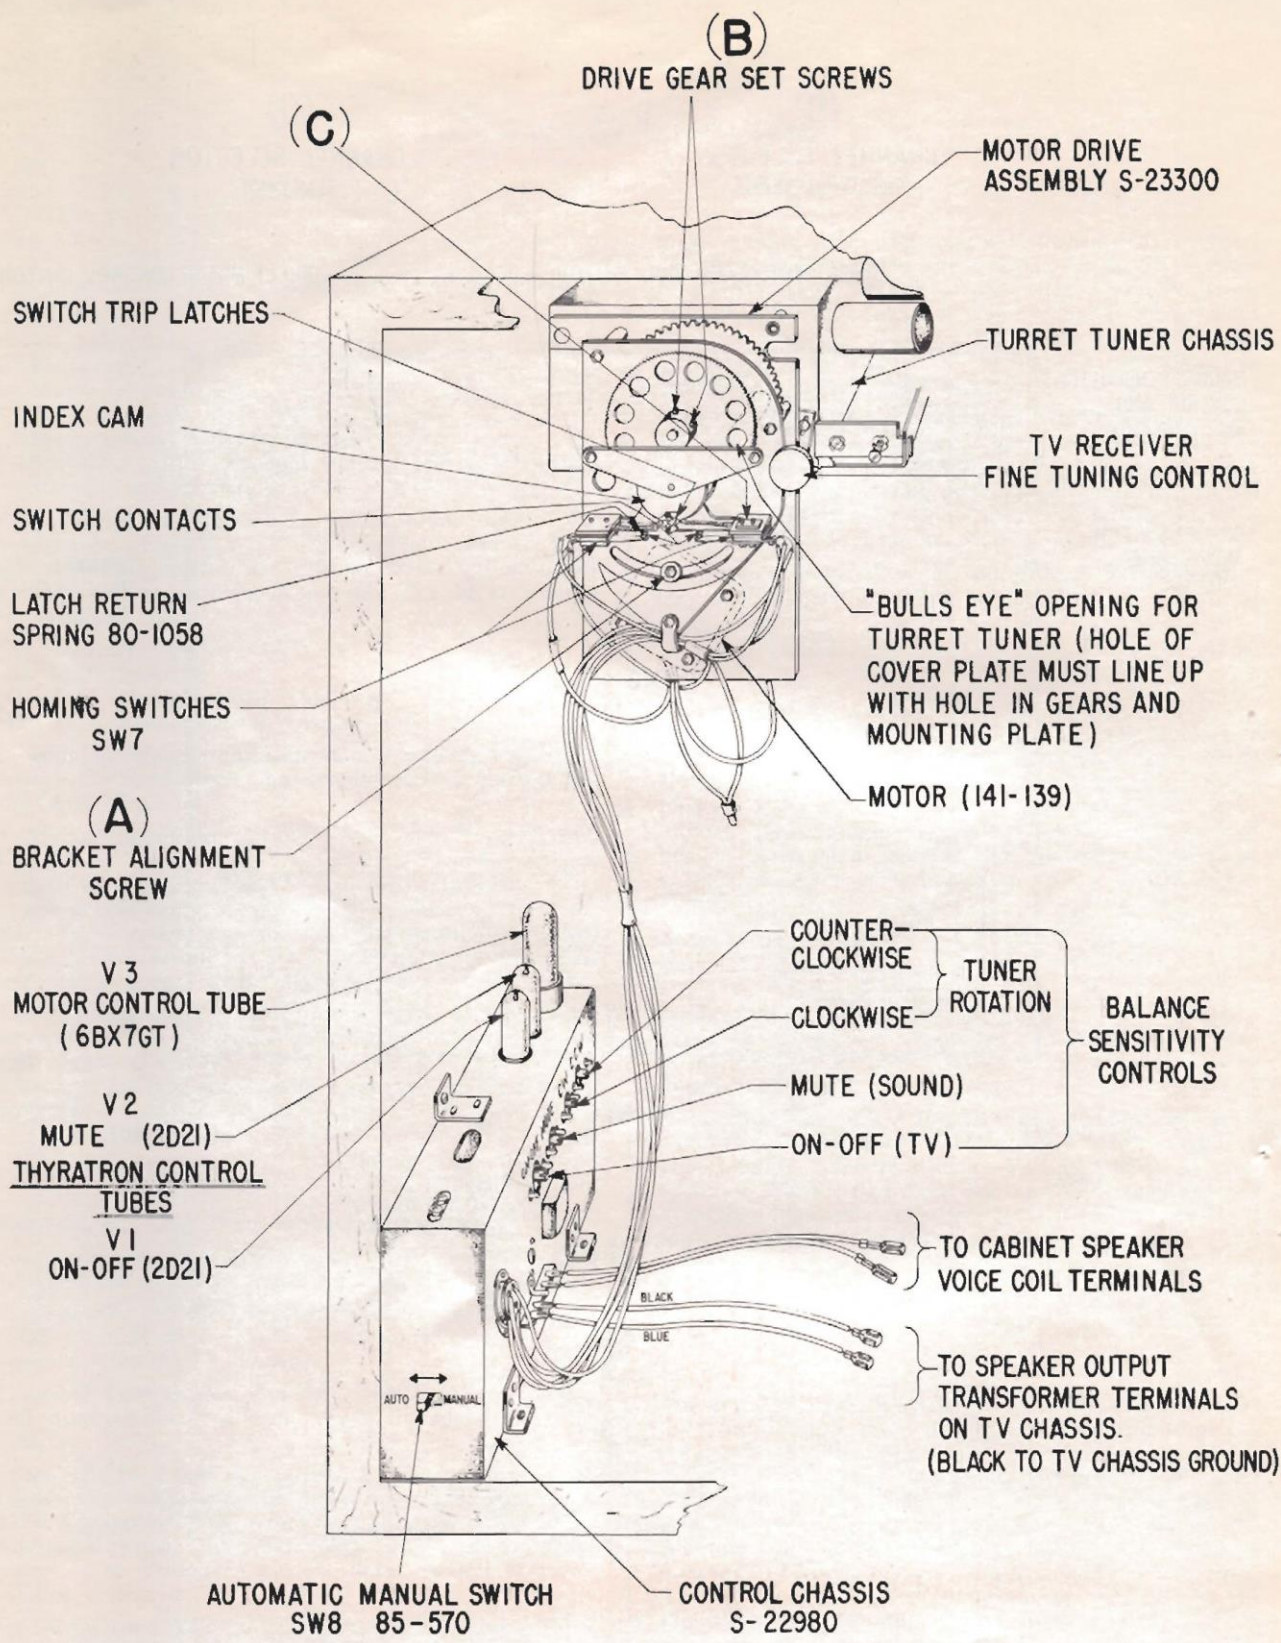

Fig. 1a—Rear View Control Installation
The Auto-Manual Switch is located at the control chassis rear (Fig. 1a). It is provided to disengage the control chassis and photo-cell circuits should manual TV operation be desired or in case the remote units are not functioning properly.
The "homing" switch assembly consists of two identical switches (SW7) and two index cams. It is mounted on the motor drive assembly. The index cams make one revolution per channel or 13 revolutions per one complete rotation of the large motor drive gear. As shown in Figure 5 the cams are in "neutral" and both switches are in an open position. These switches are electrically across the motor control relays K1 and K2. Thus when the motor control circuit relays are energized, the index cams move from neutral position and the trip latches keep the switch contacts closed, maintaining power to the motor for the balance of the cycle. Since clockwise and counter-clockwise rotation is required two cams and two switches are incorporated. The switch SW7 on the right hand side (C) is adjustable and factory set for best index operation. (Figs. 1a and 5.)
Note that increasing the rotation of the balance sensitivity control clockwise increases the sensitivity. (Figs. 1a and 6.)
CHANNEL INDEXING (Figs. 1a and 5)
If the unit does not index, carefully reset the alignment bracket by loosening screw (A), re-position bracket and re-tighten screw securely. (Figs. 1a and 5.)
If resetting the alignment bracket (A) fails to remedy indexing troubles, a finer adjustment can be made by resetting switch SW7 located on the right hand side (C). (Fig. 1a.) Slightly loosen both holding screws of the switch and move switch assembly further or closer to the left side switch. (Figs. 1a and 5.) Re-tighten holding screws.